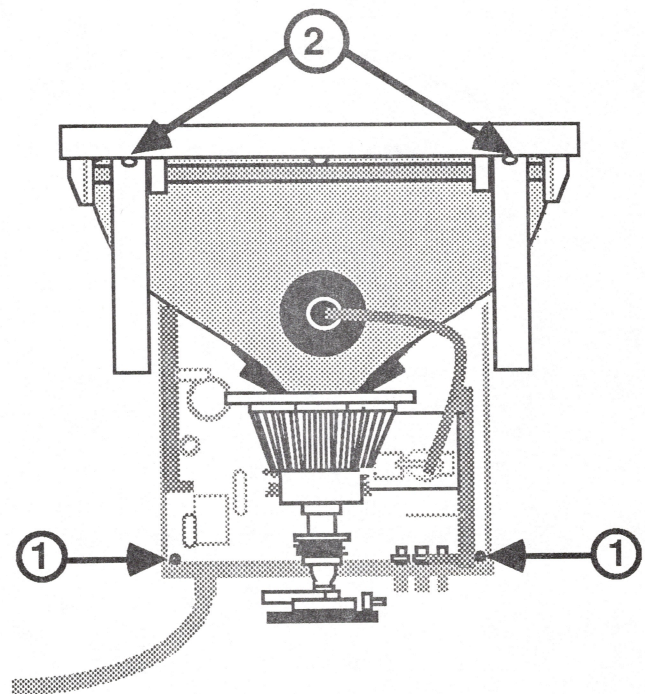

FIGURE 21
5. Replace the two screws (Figure 21, #1) that secure the back panel to the main logic PCB.
6. If you are repairing a Rev. A monitor, install the two new **INSULATED** upper case supports you will find in the logic board replacement kit. To do this, replace the two screws that secure the upper case supports to the top of the bezel (Figure 21, #2).